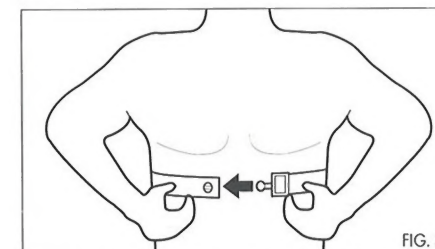

FIG. 3
- 2 Wrap the belt around your chest and fasten it together. Adjust the belt so it will remain tight and not bounce up and down. (FIG. 3)